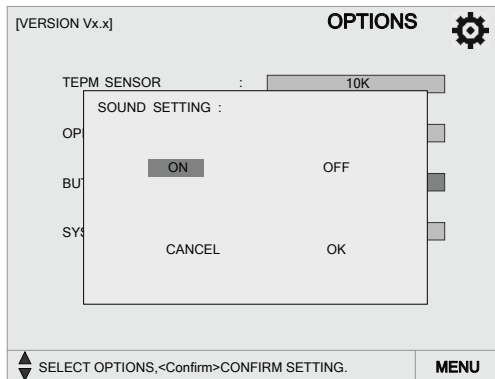

Fig.3-8 SOUND SETTING Page
**BUTTON SOUND:**(Fig.3-8) whether there is button sound depends on the users' preference.